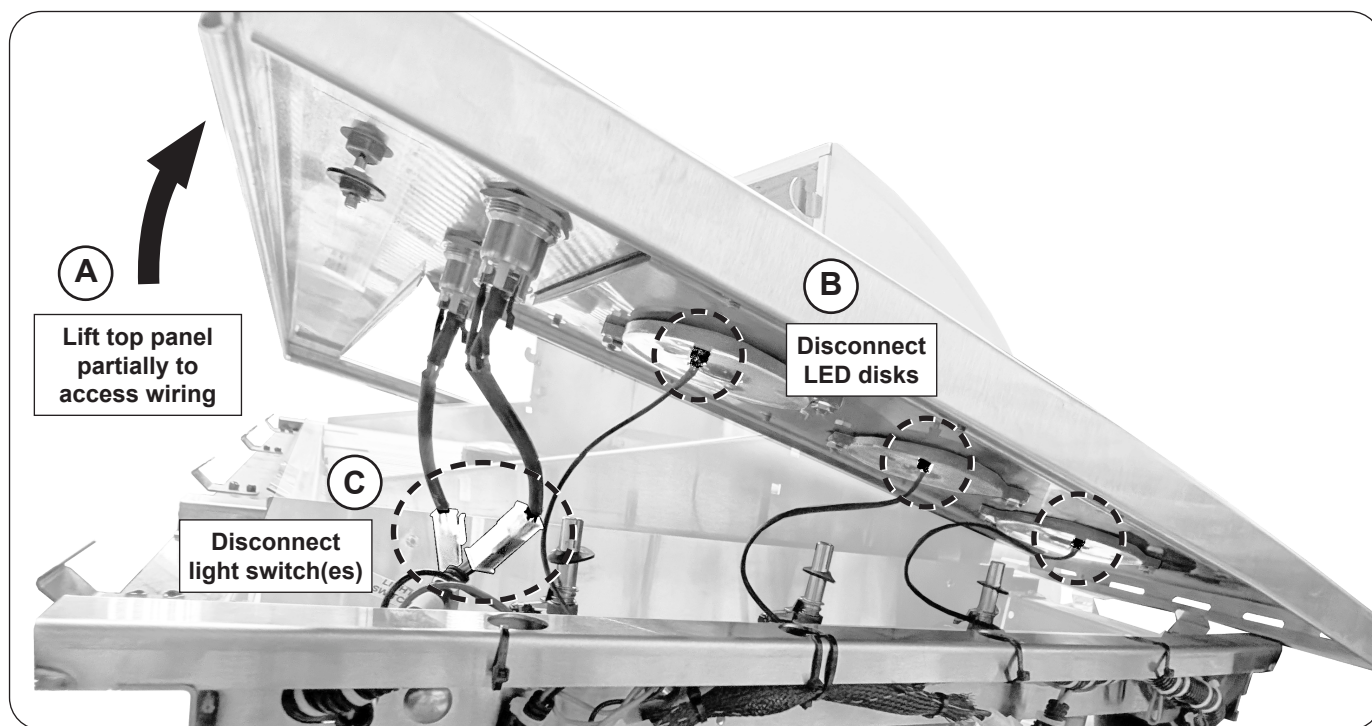

Fig. 42-1 Top panel removal
4. Insert your fingers underneath the front lip of the top panel and PARTIALLY lift up the top panel to free it from the clips ensuring to not add any stress to the wire connections (see Fig. 42-1, A).
5. Carefully disconnect the wires from the three LED disks (see Fig. 42-1, B) and detach the light switch(es) from the wire harness (see Fig. 42-1, C).